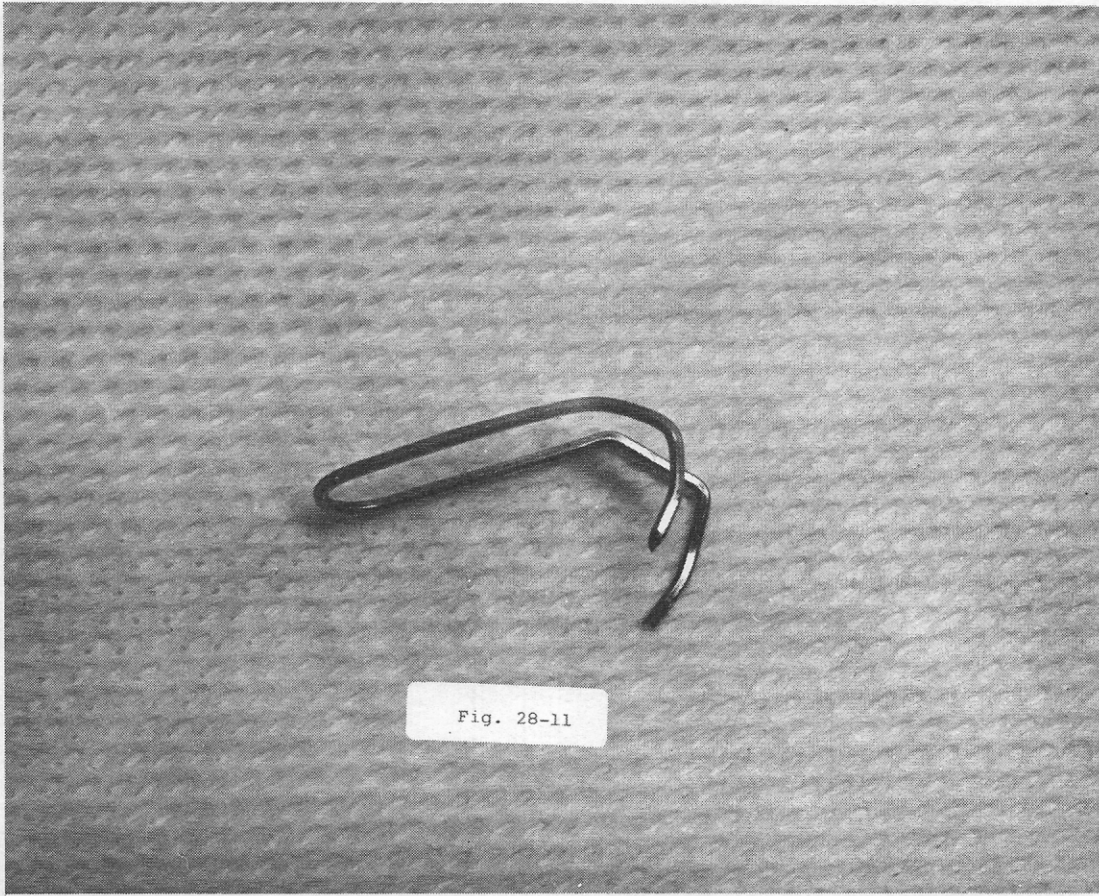

Fig. 28-11
3. Block the Function Pawls for any of the above parts in the Stunt Box as in Fig. 28-10, using wire clips as in Fig. 28-11, which can be made out of paper clips if necessary.